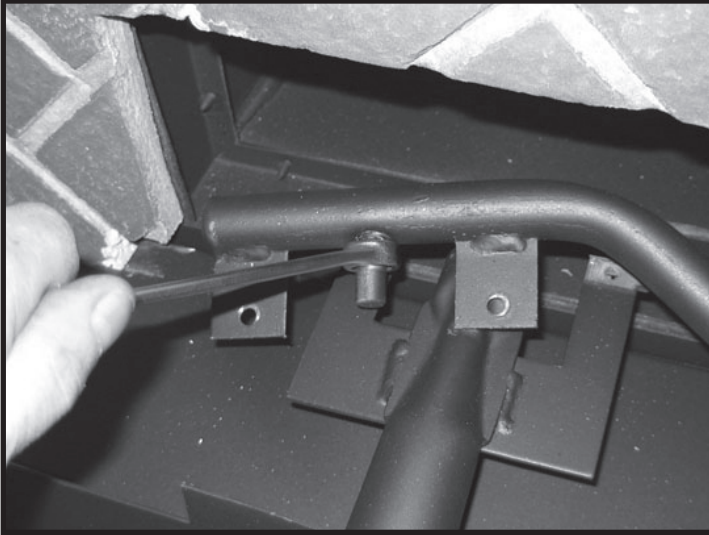

Figure 19: Removing orifice.
4. With a ½” wrench remove the natural gas orifice (Figure 19).